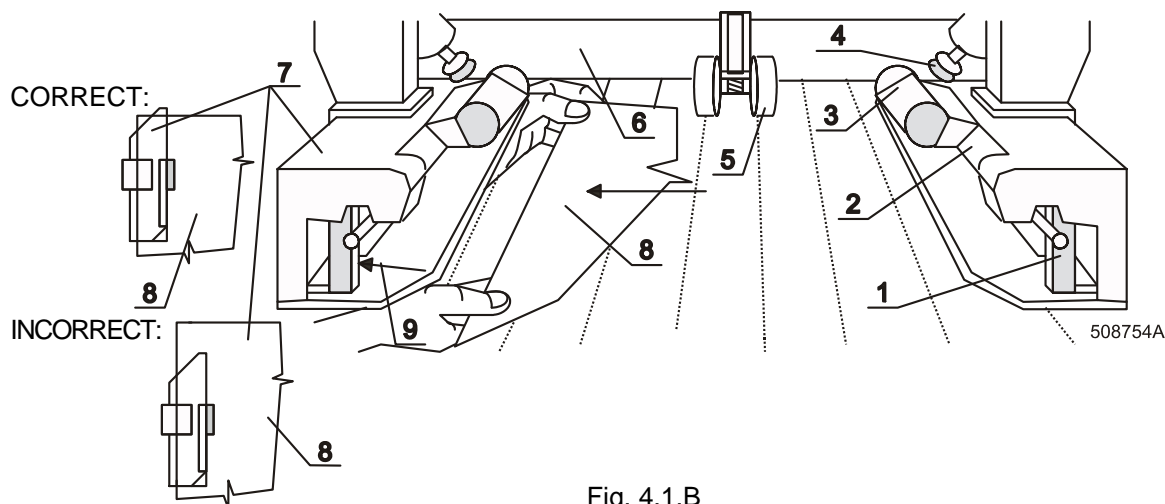

Fig. 4.1.B
If the machine is ready for a laundry insert, the green button light, fig. 4.1.A, pos. 4 is on. Insert the linen corners, fig. 4.1.B, pos.8 into clamps (7) so that the front linen border does not protrude rear clamp edge (7) and at the same time move by linen the stud (1) in the direction of arrow. The jaws (2) will squeeze the linen. Now, you can press the push-button (4). The clamps (7) will spread the linen with an assistance of moving brushes and a pushing roller (5).
**DO NOT PUT YOUR HANDS INTO THE CLAMP SLOTS (7) UNDER THE JAWS (2), UNDER THE PISTONS (4) AND THE PUSH ROLLERS (5), AND UNDER THE ROLLER IRONING FOLDS.**
**IF THE GREEN BUTTON LIGHT IS OFF OR FLASHING (FIG. 4.1.A, POS. 4), DO NOT REACH AROUND THE CLAMPS (FIG. 4.1.B, POS. 7).**
If you press the push-button, fig. 4.1.A, pos.4 without the linen being in the clamps, wait until the clamps come to the standard position.
By using the key „O“ it is possible to select automatic or manual feeding of linen. After selecting manual feeding the clamps drive up to edge positions and the button, figure 4.1.A, pos. 4, will turn off – machine is prepared for manual feeding.
- If the linen is already clamped inside the machine, it is possible to stop the machine by pressing the finger guard, figure 4.1.B, pos. 6 and to start the back stroke by pushing the button „J“ and to remove the linen carefully. This operation can be executed only within the time period necessary for removing the linen and therefore it is time limited to several seconds! If you need more time for the back stroke, you must push the button for the back stroke repeatedly. Then you must start again normal operation by pushing the button „I“.